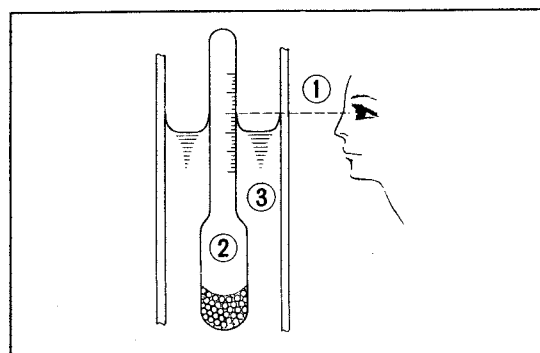

Fig. 160 ① Eye level ② Hydrometer ③ Battery electrolyte
- 1) Measure the specific gravity of the battery electrolyte with a hydrometer and if it is below 1.200 (corrected to 20°C), the battery should be recharged. The specific gravity is calibrated on the stem of the float and the reading is taken at the fluid level with the float buoyant. (Fig. 160)